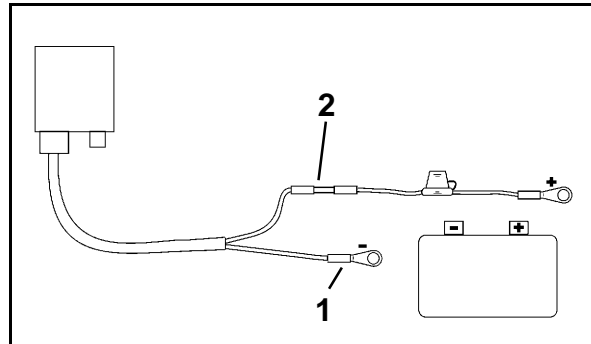

Fig. 173
5. Insert the blue cable (earth cable) into the ring tongue (Fig. 173/1).
7. Insert the brown cable (+ 12 Volt) into butt joint (Fig. 173/2).
9. Shrink butt joint (Fig. 173/2) by using a heat source (lighter or hair dryer) until the adhesive escapes.